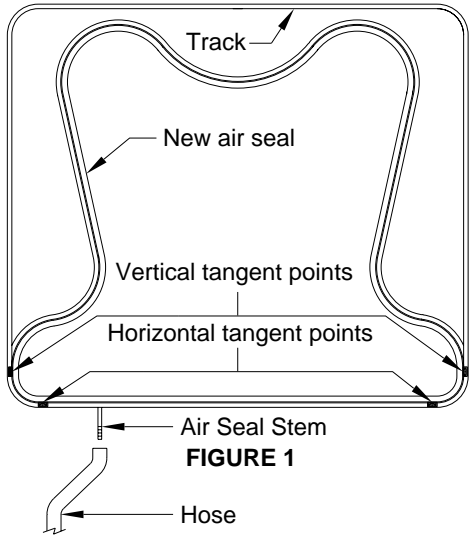

FIGURE 1
11. Install seal along bottom to tangents of each bottom corner. Snap into place (see DETAIL E & FIGURE 1).
13. Install seal into corner and stake down at the vertical tangent points. Note: DO NOT bunch the seal into the corner. Extra seal in the corner can cause a buckle in the seal and no seal contact with room (see FIGURE 1).